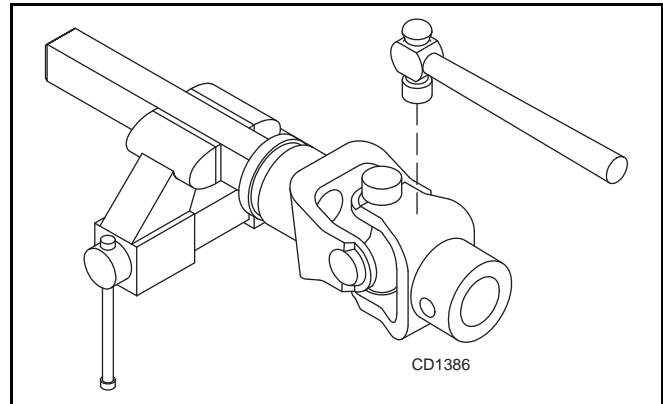

Figure 28
2. With snap rings removed, support drive in vise, hold yoke in hand and tap on yoke to drive cup up out of yoke. See Figure 28.